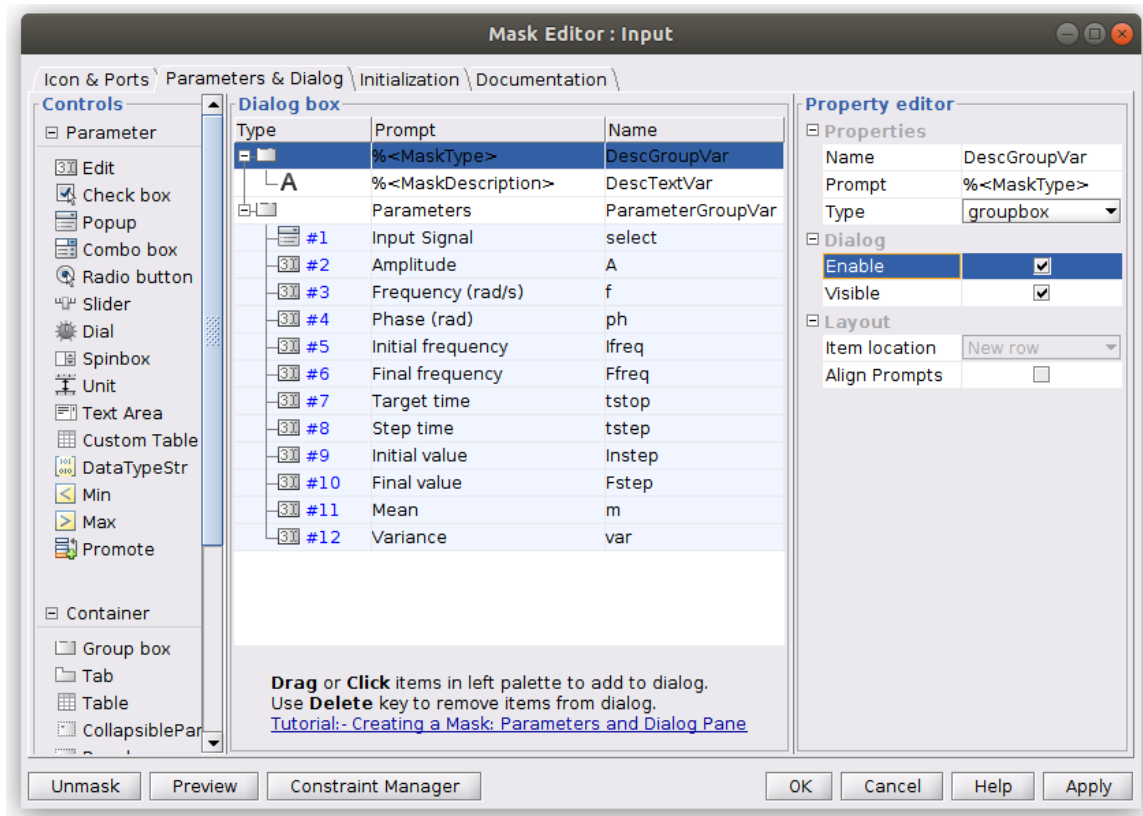

Figure 3 - Parameter pane in the mask window.
- Q3. What happens if the order of the parameters is changed to be different from Figure 3? (You may test this by using the “move up” and “move down” options).
- 2) The next tab, *Parameters & Dialog*, is where we define the parameters of the system that can be changed dynamically by the user. Obviously, we require an option for the user to select which of the input sources to use, but we also require many other parameters related to the source selected. For example, the sine wave requires an amplitude, frequency, and phase to be defined, whereas the random source requires a mean and variance. We shall make the mask dynamic such that, for each source selected, only parameters related to that source will appear to the user for modification. To accomplish this, first we edit the window to look as given in Figure 3.